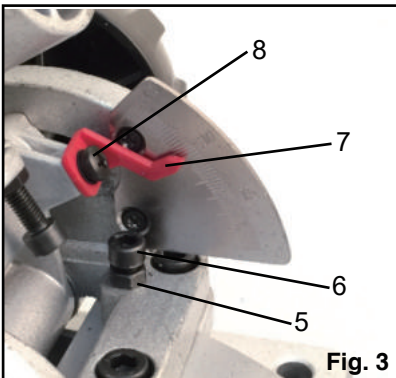

Fig. 3
- Using an 11/32" open-end wrench to loosen the hex lock nut (5) and then using a 3/16" hex wrench to adjust the hex screw (6) up or down. (Figure 3)
- When you have established the vertical stop correctly, tighten the hex lock nut (5) down to hold the setting.
- Adjust bevel indicator (7). Loosen screw (8) and align indicator (7) to the 0° mark. Tighten screw (Figure 3)